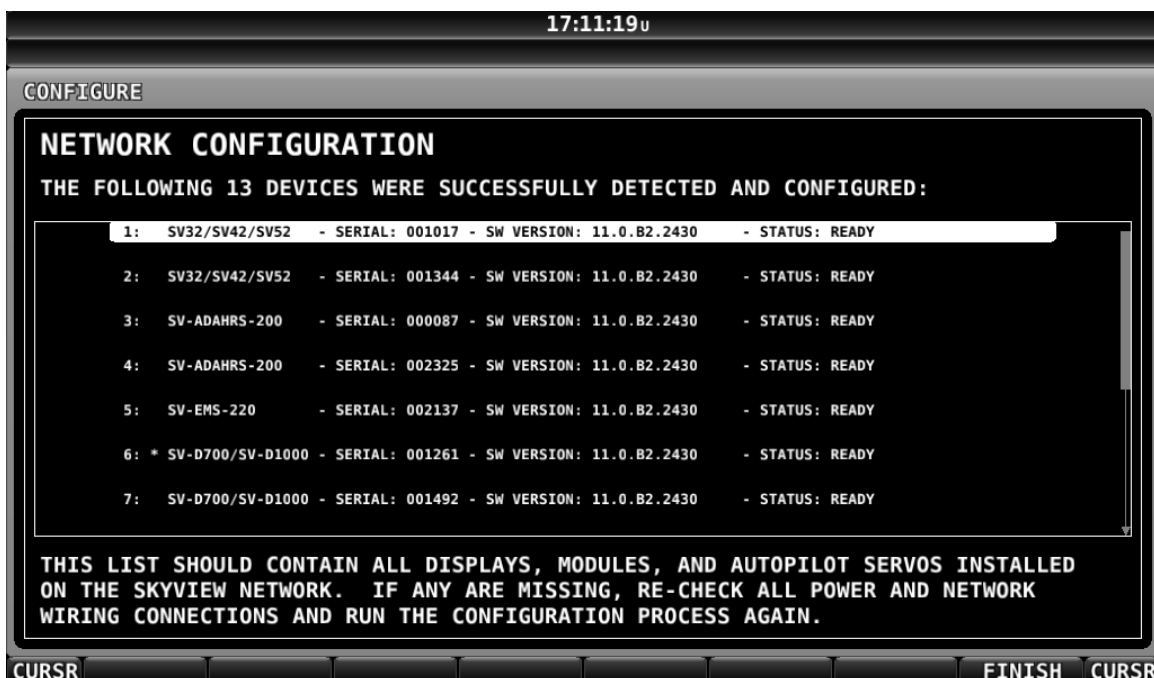

Figure 48 – Successful SkyView Network Configuration Screen
3. *Press DETECT*. A successful network configuration yields the screen in Figure 48 (depending on the units installed, your SkyView system's network devices will look different and display different Software versions).